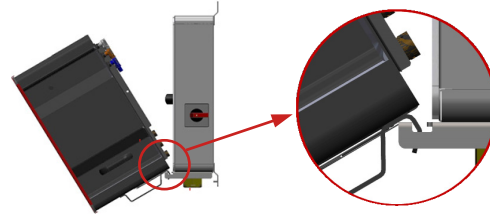

Fig. 31: Hooking PowerUnit onto ConnectionBox
2. Carefully insert the PowerUnit into the device holder of the ConnectionBox as seen in figure 31.